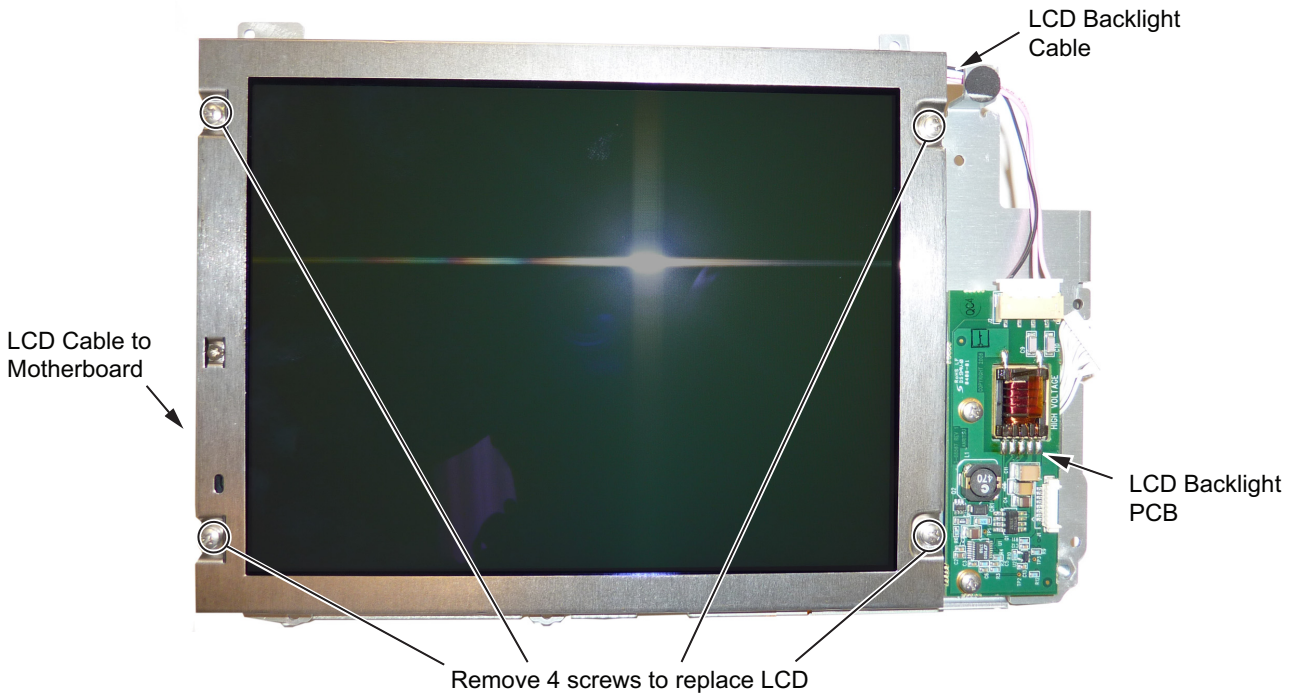

Figure 6-13. Replacing the LCD
- Use a Phillips screwdriver to remove the four screws securing the LCD to the housing, see Figure 6-13.